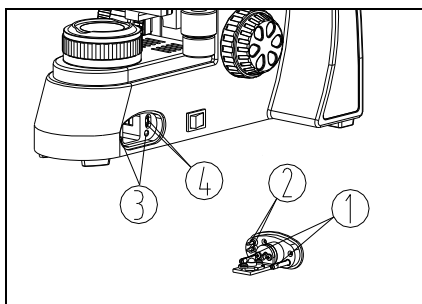

Fig. 7
1. Align the oriented pin ① and power pin ② on the light source to oriented holder ③ and power socket ④, and then push light source into arm smoothly and plug it thoroughly (see Fig. 7).